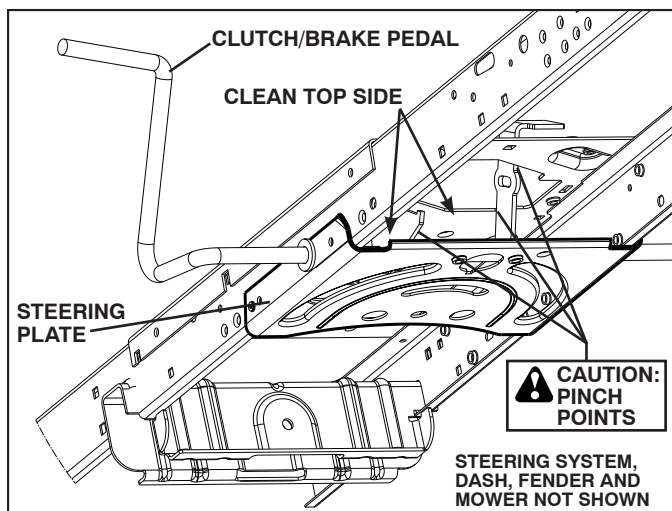

Fig. 21
**CAUTION:** Avoid all pinch points and movable parts (See Fig. 21)